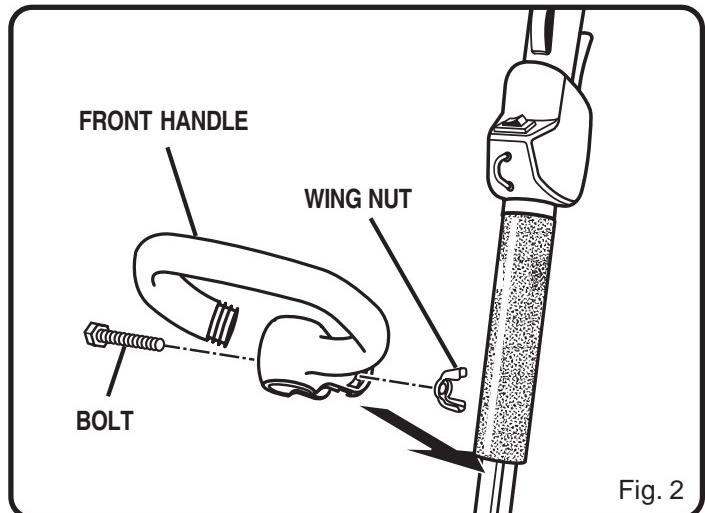

Fig. 2
See Figure 2.
**NOTE:** Do not attempt to remove or modify the spacer. This spacer limits the upper position of the handle grip. See Figure 2.